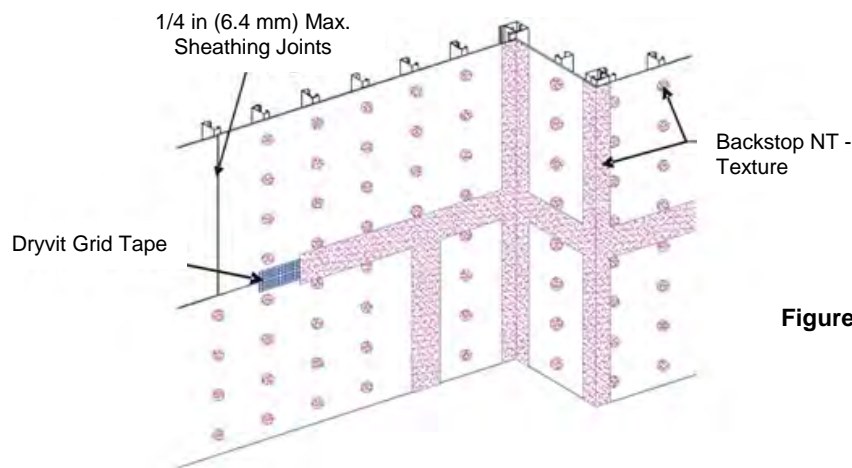

Figure 16
- 1) Apply Dryvit Grid Tape as described in Section VI.F.1 above. Mix the Backstop NT - Texture material as described in Section III.B.2. Using a stainless steel trowel or spatula, apply a layer of Backstop NT - Texture over the Dryvit Grid Tape and spot all fastener heads – Figure 16. **NOTE: Dryvit Grid Tape is not necessary over fastener heads.**